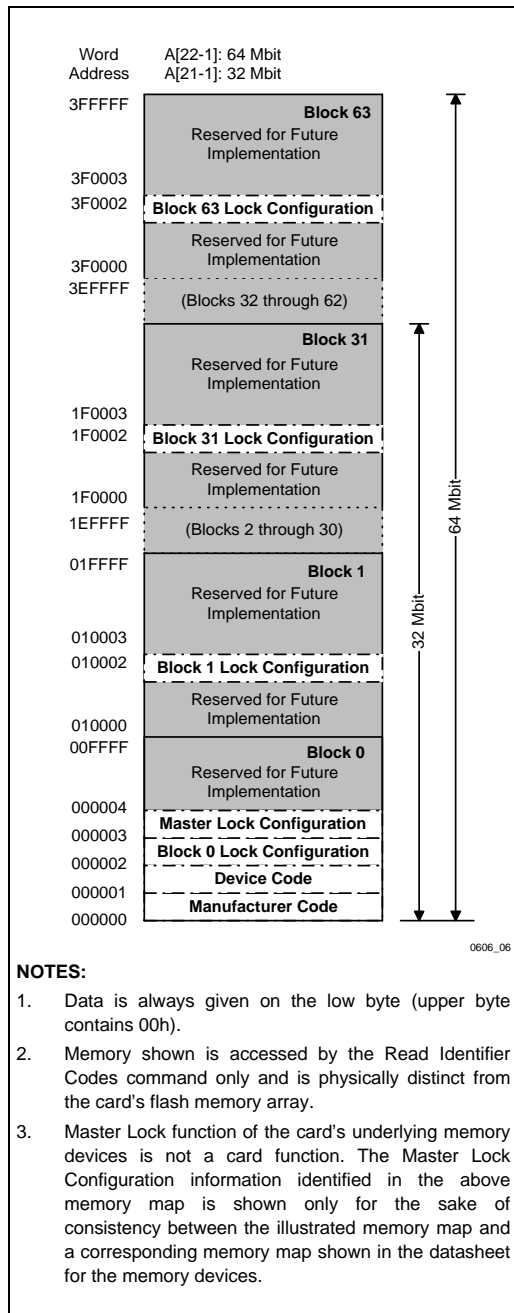

Figure 3. Device Identifier Code Memory Map
The read identifier codes operation outputs the manufacturer code, device code, block lock configuration codes for each block, and the master lock configuration code (see Figure 3) Using the manufacturer and device codes, the system CPU can automatically match the device with its proper algorithms. The block lock and master lock configuration codes identify locked and unlocked blocks and master lock-bit setting.
The identifier code operation is initiated by writing the Read Identifier Codes command to a memory device. Following the command write, read cycles from addresses shown in Figure 3 retrieve the manufacturer, device, block lock configuration and master lock configuration codes (see Table 7 for identifier code values). To terminate the operation, write another valid command. The Read Identifier Codes command is valid only when the WSM is off or the device is suspended. Following the Read Identifier Codes command, the following information can be read:
2. X selects the specific block's lock configuration code. See Figure 3 for the device identifier code memory map.